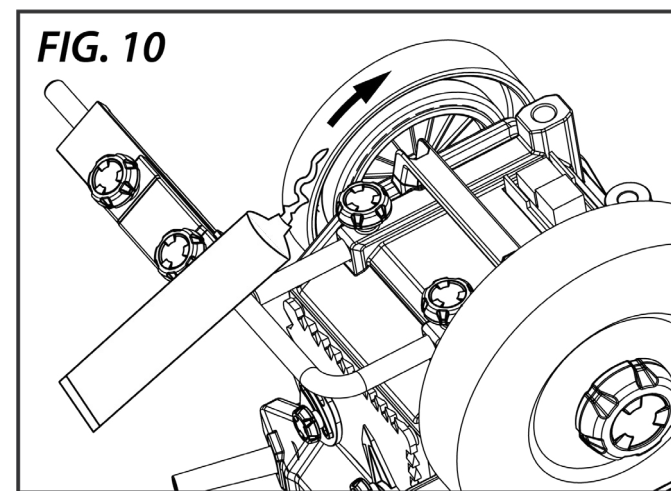

FIG. 10
- The leather stropping wheel on the sharpener, used with the abrasive stropping paste (optional extra) can be used to obtain a razor sharp edge on many tools. Before use, the stropping wheel must be properly prepared. Figure 10.